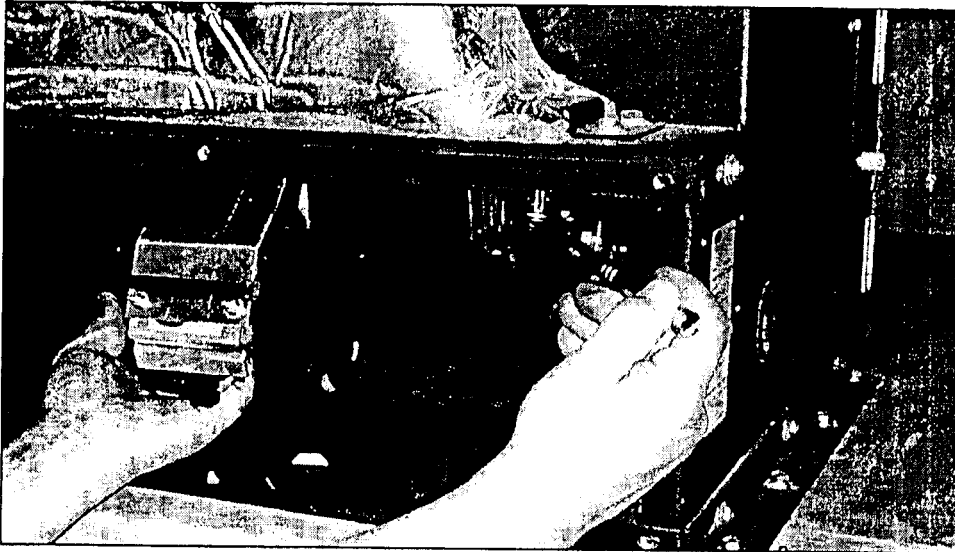

Figure 4.
9. Using masking tape and a marker, identify the the blower motors orientation. Using a ratchet and socket, remove and retain the mounting hardware from the blower motors (Figures 4 and 5). Place the blower motors on a workbench.